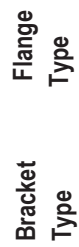
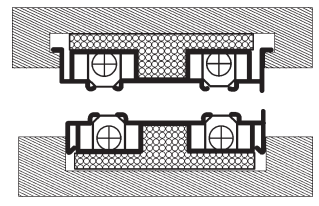

Figure 1
Figure 2
- Circle One: Bracket Type - (Primarily used in retrofit) Flange Type - (Used in custom mfg.) - See Figure 1.
- Circle One: V plough or Square plough only applies to 86F, 86H, 86G, 86I. - See Figure 2.
1. **Bracket Type** - Used primarily in retrofit or flange type -used in custom manufacturing. (Refer to Figure 1).
2. **V Plough or Square Plough** (Refer to Figure 2).
3. **If converting from a non-tilt to a tilt system** - You will need to cut back sash 1-1/2" (Figure 1) and then plough sash as shown (Figure 2).